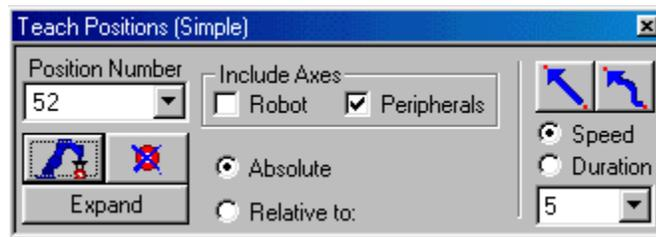

Figure 13-2
- Compare with Figure 13-2 and click Record.